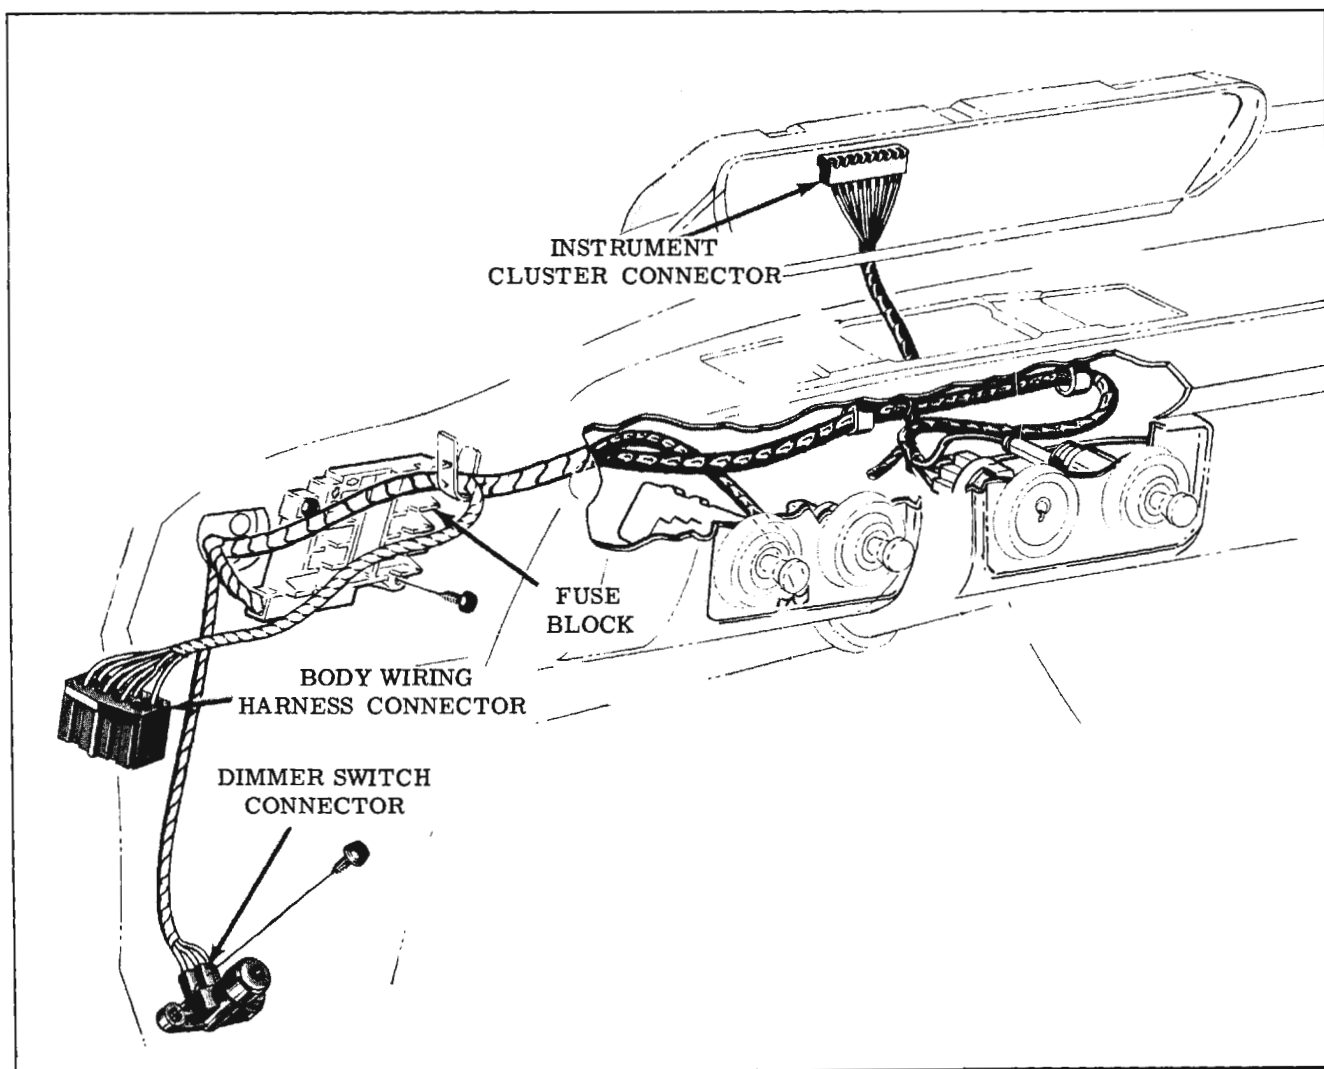

Fig. 14-103 Instrument Panel Wiring
2. Route harness branches to components under instrument panel. (Fig. 14-103)